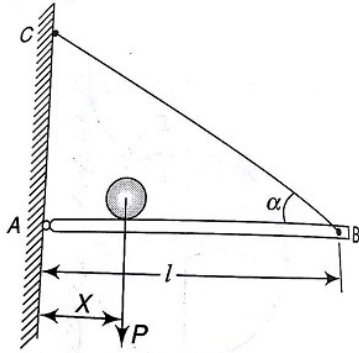

Figure 2.11
12. A horizontal prismatic bar AB, of negligible weight and length l , is hinged to a vertical wall at A and supported at B by a tie rod BC that makes the angle α with the horizontal (Figure 2.11). A weight P can have any position along the bar as defined by the distance x from the wall. Determine the tensile force S in the tie bar.